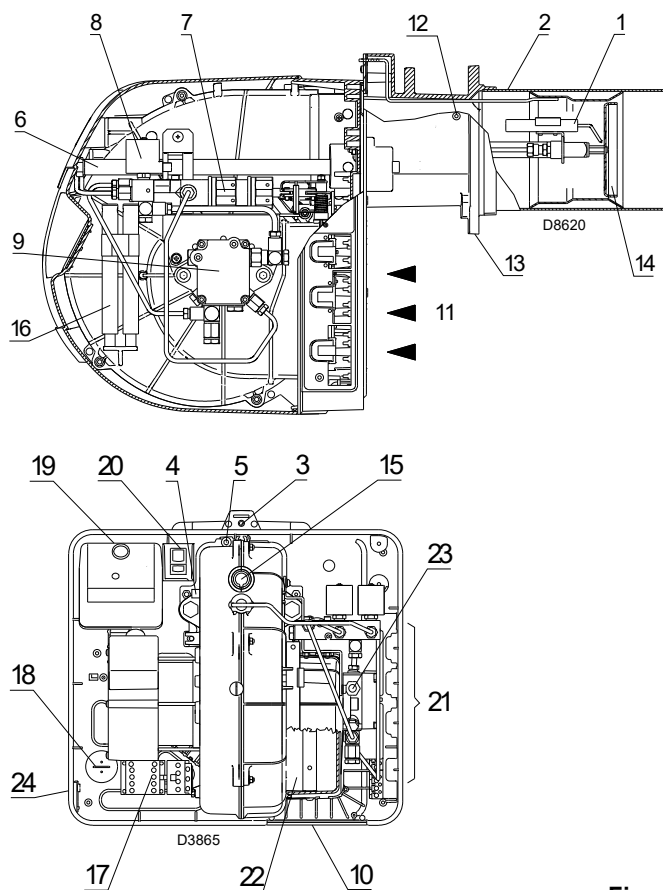

Fig. 4
Control box lockout: if the control box 19)(Fig. 4) pushbutton (red led) lights up, it indicates that the burner is in lockout. To reset, hold the pushbutton down for between 1 and 3 seconds.
Motor lockout (RL 44 MZ three-phase): release by pressing the pushbutton on thermal relay 17)(Fig. 4).
- 2 - Extensions 16)(Fig. 4 to page 11) for slide bars 6) (for model with 351 mm blast tube)